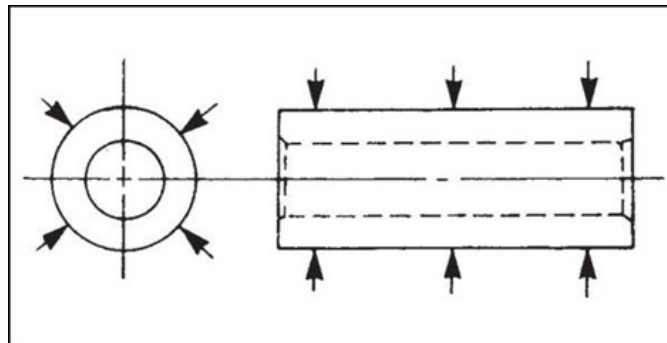

Figure 121.
6. Measure the outside diameter of the piston pin in three places and at 90° (Figure 121). See the mechanical specifications chart. Record the measurements.